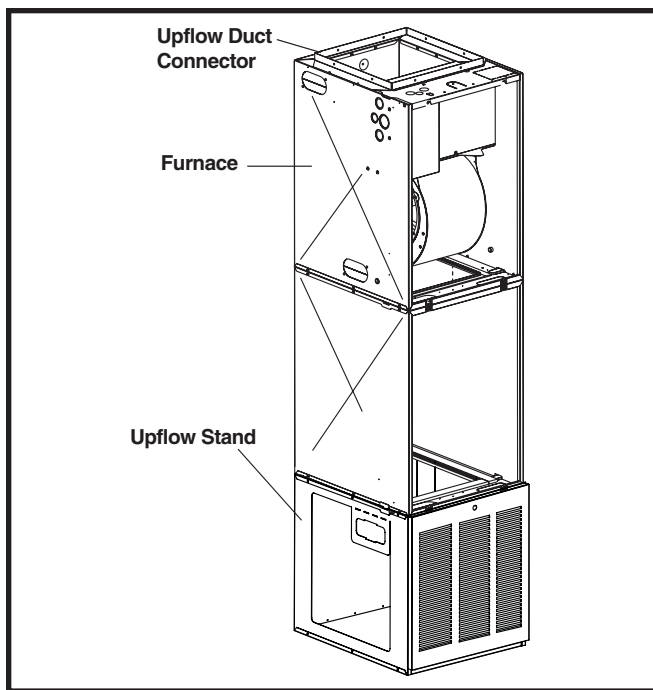

Figure 15. Over-the-Floor Return Air System with Upflow Stand
2. Use optional upflow stand (refer to the technical specifications literature for part number) with filters or construct a suitably braced mounting platform in closet. See Figure 15 \(page 11\).
6. Use optional upflow duct connector or field supplied connector to attach furnace to overhead supply duct. See Figure 15.